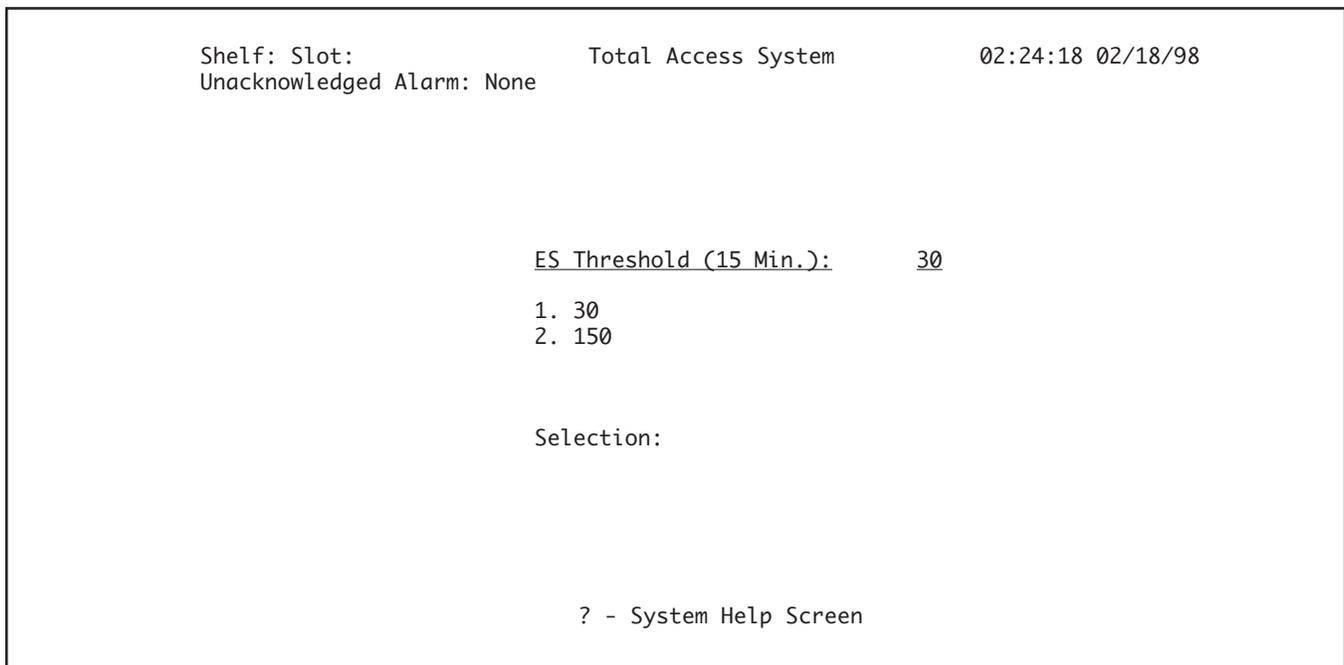

Figure 22. ES Threshold (15-Minute) Screen
1. From the Alarm Provisioning Screen, type “1” and press Enter to select ES Threshold (15-Min.). The ES Threshold Screen (Figure 22) will appear. Type the number of desired setting and press Enter.